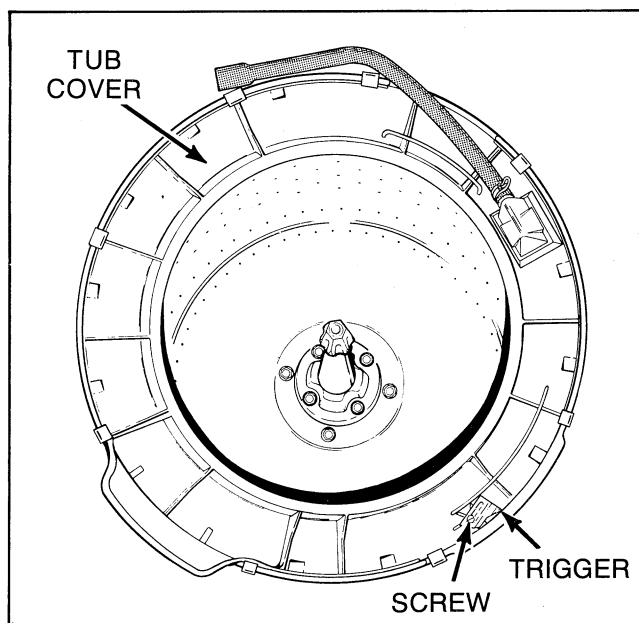

Figure 42
NOTE: The trigger is centered, *Figure 42*, on the mounting screw at the factory.
- Loosen screw holding trigger to tub cover, *Figure 42*, move trigger to the right (increases sensitivity) or to the left (decreases sensitivity).
IMPORTANT: If the trigger repeatedly trips the out-of-balance switch lever, check the centering of the agitator within the loading door opening. Centering springs may have to be positioned in the upper or lower notch (positioned in center notch at factory, *Figure 42*, to center the agitator within the door opening).